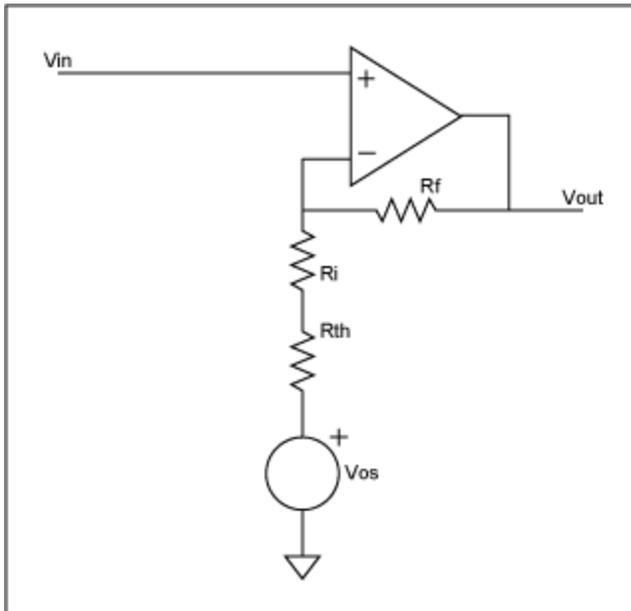

Figure 5. Non-inverting with offset voltage.
From equation (1) we see that $R_{th} = R_2$. And from equation (2), $V_{os} = \sim(V_{n+} + (V_p - V_n)N) \times (R_2 / R_1)$. Assuming $R_2 \ll R_i$, then R_2 can be ignored. Using the Thevenin equivalent network, the circuit simplifies to that shown in **Figure 5**.